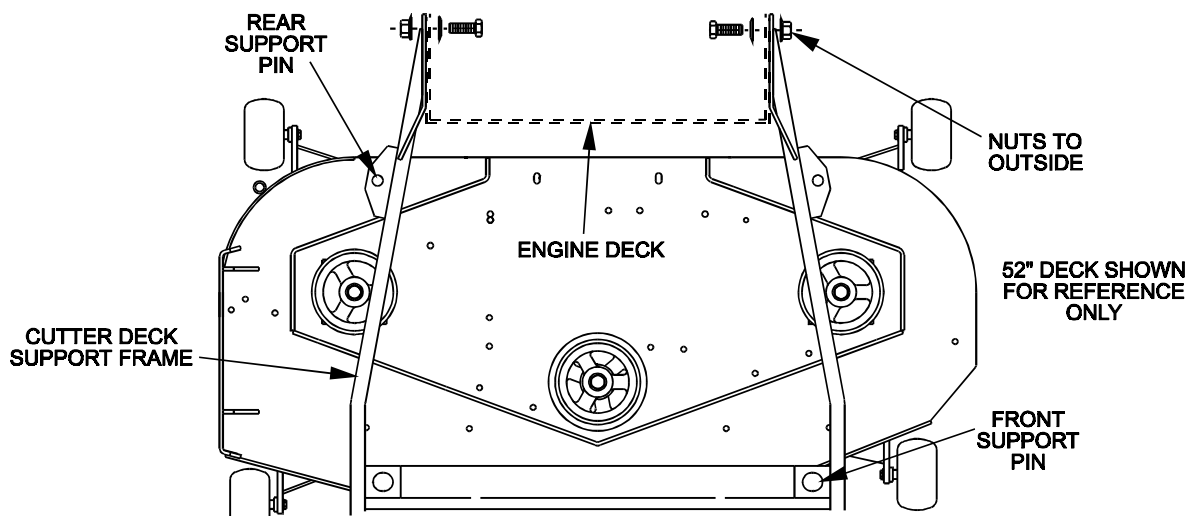

Fig. 2
- 3.3.2 Remove cutter deck support frame from cutter deck by removing the two hairpins and washers from the front deck support pins and by removing the two hairpins and washers from the rear deck support pins (See Figure 2).
Align and re-install the cutter deck support pins into the support frame. Install the two washers and hairpins onto the front support pins and the two hairpins and washers onto the rear support pins (See Figure 2).